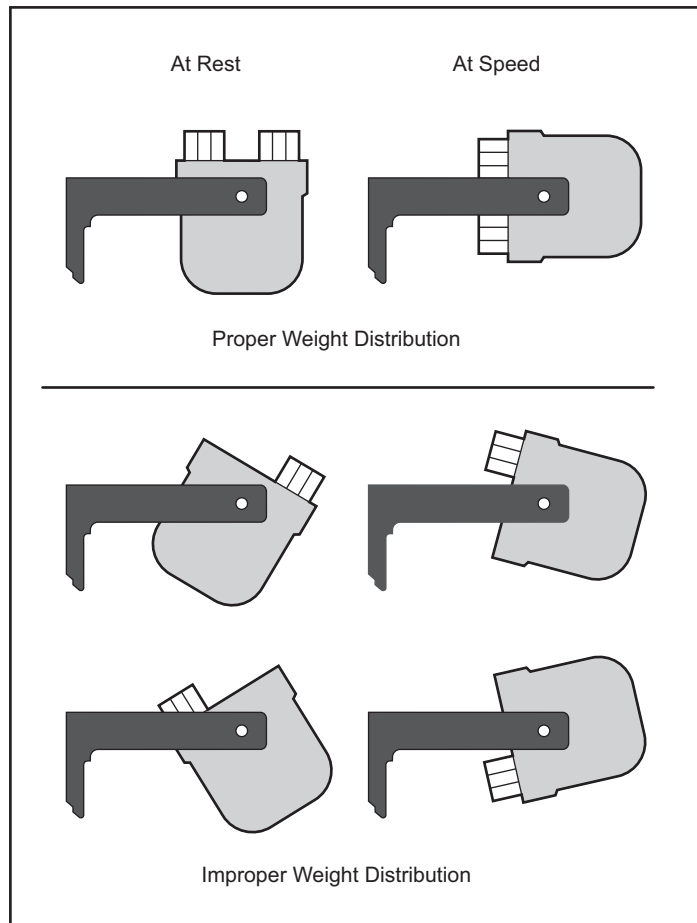

Figure 4. Examples of the Effects on the Horizontal Swing of Buckets Caused by Proper and Improper Weight Distribution
- During a run, buckets and carriers swing 90 degrees from their at-rest position. The pivotal axis of a bucket or carrier can be imagined as a line extending across the bucket or carrier from one pivot pin to the other. If a bucket or carrier is loaded so that its weight is unequally distributed on either side of its pivotal axis it will not hang vertically at rest and, more importantly, will not swing to a horizontal position during a run (see Figure 4). As a result extra stress will be placed on the bucket, carrier, tubes and/or bottles, increasing the possibility of breakage or rotor imbalance.